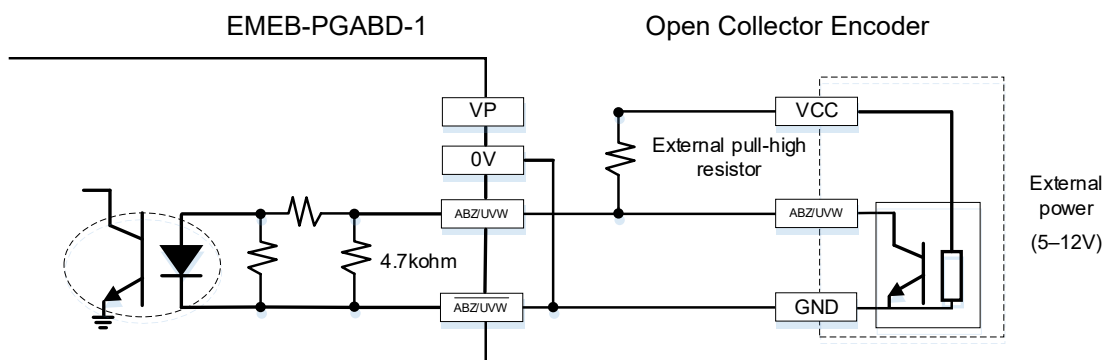

Figure 3-36
- Open collector output encoder application: Use one pull-up resistor for each set of input current 5–15 mA. If open collector input voltage uses 12V power, connect the encoder power externally. See the PG wiring Figure 3-36 below.